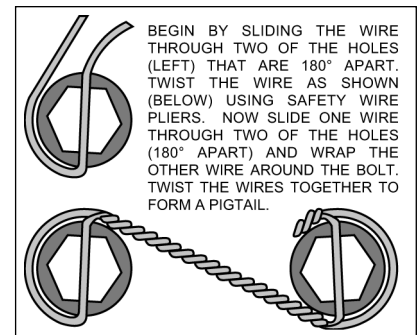

Figure 3. Safety Wire Diagram
- Drum Application:** Apply red *Loctite*® 271 to bolt threads (2) before assembly of the caliper mounting bracket (1). Mount bracket (1) to face of dust plate mount pad of spindle using the bottom bolt (5) while positioning washer (6) between bracket and spindle face, finger tighten only. Install the upper bolt (2), torque to 120 ft-lb. Torque bolts (5) to 77 ft-lb. **NOTE:** Be sure the heads of the bracket (1) insert nuts are facing outward toward the wheel.
- Install wheel studs (7) into the hub (8). Torque to 77 ft-lb. **NOTE:** There are two five lug patterns in the hub (5 x 4.50 and 5 x 4.75). Make sure of the correct hole pattern for the correct wheel application before installing studs into hub.
- Pack the large inner bearing cone (9) with high temperature disc brake bearing grease (available from your local auto parts store) and install into the backside of the hub (8).
- Install the grease seal (10) by pressing into the backside of the hub (8).
- With the larger I.D. side of the rotor (11) facing away from the hat (12), bolt rotor (11) to hat (12) through the backside of the rotor using washers (13) and bolts (14). Torque bolts (14) to 85 **in-lb**. Safety wire bolts (14), see Figure 3.
- Slide the rotor/hat assembly over the studs (7) in the hub (8) taking care to align the small countersunk holes in the hat (12) with the small threaded holes in the hub (8). Install three flat head socket screws (15) through the small holes in the hat (12) and torque to 85 **in-lb**.
- Pack the small outer bearing cone (16) with high temperature disc brake bearing grease and install into front of hub (8). Slide the hub/rotor assembly (8 and 11) with outer bearing cone (16) onto the spindle. Secure using spindle washer (17), stock adjusting nut and nut locking device. Adjust bearings per Original Equipment Manufacturer (OEM) specifications.
- Install the dust cap (18) and o-ring (19) onto the hub (8). Friction created by the o-ring (19) on the dust cap (18) keeps it from unscrewing.
- With the bleed screws pointing up, mount the caliper (20) onto the caliper bracket (1) using flat washers (21), lock washers (22), bolts (23) and shim washer (21) positioned between caliper and bracket. Finger tighten. View the rotor (11) through the top opening of the caliper (20). The rotor (11) should be aligned in the center of the caliper (20). If not, adjust the caliper (20) by using 0.032 inch thick shims (21) placed between the caliper mounting bracket (1) and the caliper (20). Finger tighten and recheck alignment. Apply red *Loctite*® 271 to bolt threads (23) and torque to 47 ft-lb. Safety wire caliper bolts (23).
- Remove the caliper bridge spacer and bolt, then install the disc brake pads (24), then reinstall the caliper bridge spacer and bolt.